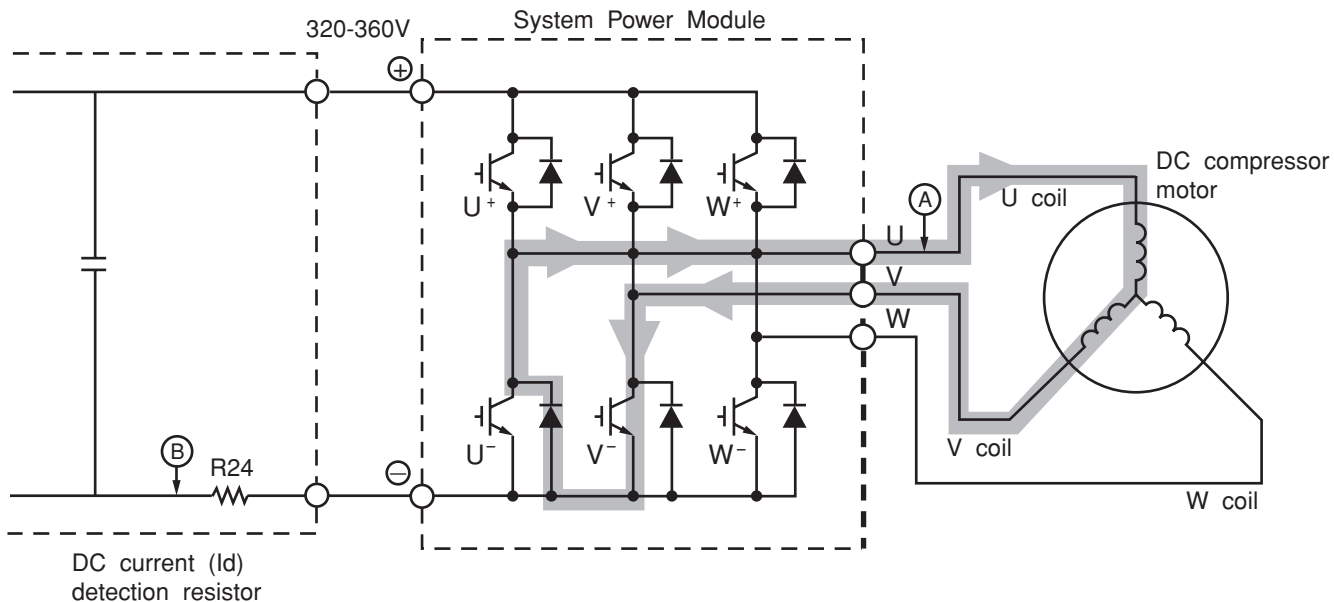

Fig. 3-4 System Power module circuit (U+ is OFF, V- is ON)
\* At point F: U+ is chopped (OFF), V- is ON (circuit in Fig. 3-4)
- (2) When U+ transistor is OFF: (by inductance of motor coil) U coil → V coil → V- transistor → Return diode → Point ① (Fig. 3-4)